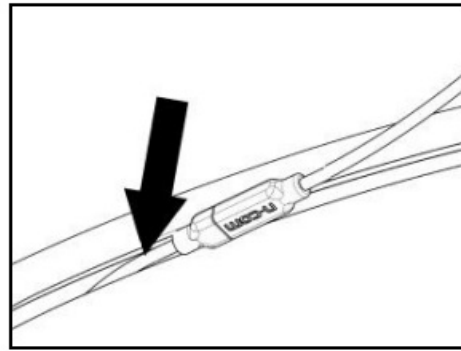

Fig. 21
- Position the wiring and the connectors behind the cheek pad lining, lifting it with the help of a flathead tool (Fig. 21).